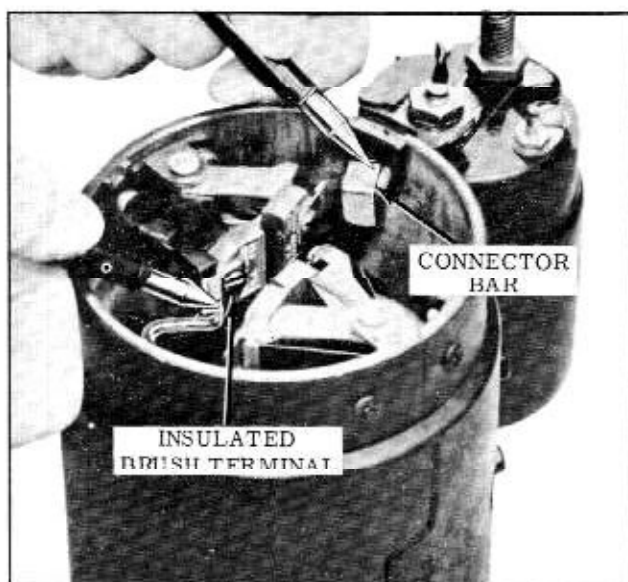

Fig. 13-41 Testing Fields for an Open
- c. Using a 110-volt test lamp, place one lead on the connector bar and the other lead on one of the insulated brush terminals. (Fig. 13-41). If the lamp does not light the excite coils are open and will require repair or replacement.